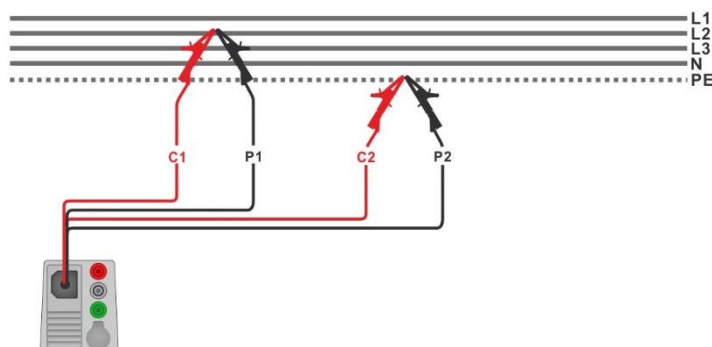

Figure 7.52: Connection of 4-wire test lead
- ▶ Connect 4-wire test lead to the object under test, C1, P1 terminals to phase and C2, P2 terminals to PE; see **Figure 7.52**.